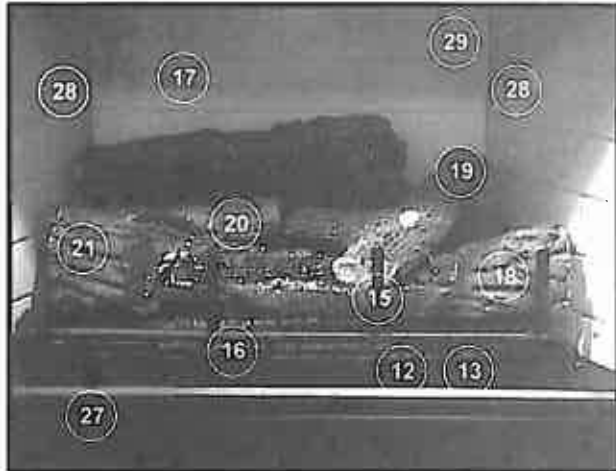

Figure 37
4. Lift up on the assembly to remove it from the fireplace and set it aside, being careful not to damage any of the logs. See Figure 37.